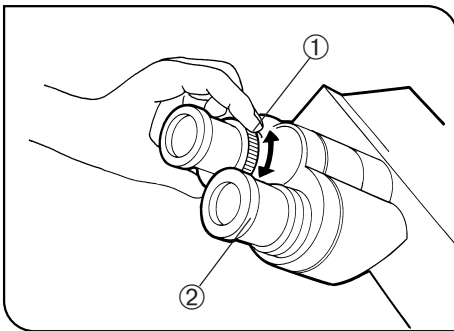

Fig. 22
### 2 Adjusting the Diopter (Figs 22 & 23)
2. Looking through the eyepiece with the diopter adjustment ring, turn only the diopter adjustment ring ① to focus on the specimen. (Fig. 22)
1. Looking through the right eyepiece with your right eye, turn the top of the eyepiece ② until a clearly defined double crossline can be seen in the field of view. (Figs. 22 & 23)
3. Looking through the left eyepiece with your left eye, turn the diopter adjustment ring ① to focus on the specimen.